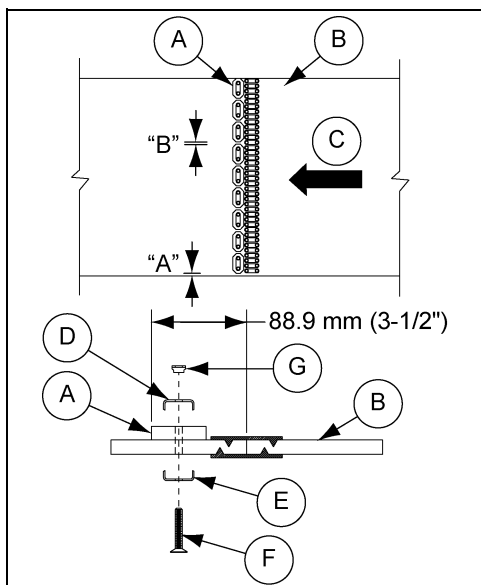

Figure 4P Belt Splice Protector Layout
Once the belt has been spliced and all nuts tightened, the belt splice protector is to be installed. The splice protector (A) is to be placed in front of the splice going with the flow of material (C). See Figure 4P for proper spacing.
1. Assemble bolts (F) in bottom plates (E). Snap clip over heads of bolts (F). Then insert bolts (F) from under side belt along the row of holes.
2. Place splice protectors (A) on top side of belt.
3. Place top plate (D) over one bolt. Insert Bolthorn Tool through the other plate hole and over the second bolt to pry it into place.
4. Assemble all top plates (D) the same way as in direction 3. Start nuts down by hand far enough so that wrench will engage bolts.
5. Tighten all fasteners. Tighten all nuts (G) uniformly. The Flexco Power Tool Wrench used with an impact tool will speed this step considerably.
6. Hammer plates in belt with metal or hard wood block in between bolts (F). Then retighten nuts (G).
7. Break off excess bolt ends using two (2) bolt breakers. On belts with thicker than 9.6 mm rubber covers, retighten all nuts after a few hours of running. Grind sharp edges of broken bolt ends until they are smooth and do not protrude.